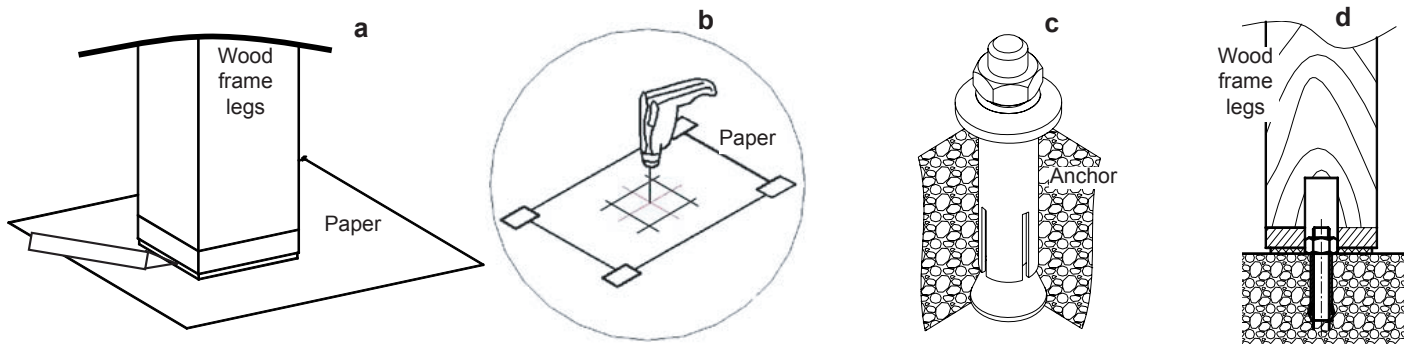

Figure 14. Secure Bath to Wood Frame
5. Drill a $\frac{7}{16}$ in hole the depth of the 1-1/2 in screw length for each anchor. Then remove the paper from the floor and discard, see Figure 14.